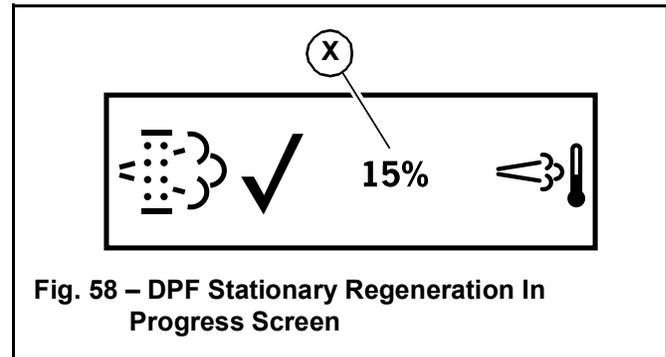

Fig. 58 – DPF Stationary Regeneration In Progress Screen
- b. When engine coolant has reached operating temperature (above 140° F / 60° C), a checkmark (O) is displayed next to the coolant temperature icon.
- c. Place throttle controls to the lowest speed setting. A checkmark (P) is displayed next to the slow engine speed icon when the engine is running at low idle.
3. When all three checkmarks (M, O & P) are displayed on the stationary regeneration request screen, press and hold the interface button on the multi-function display until the DPF Stationary Regeneration In Progress screen (Fig. 58) is displayed.
4. Stationary regeneration progress is displayed in the center (X, Fig. 58) of the DPF Stationary Regeneration In Progress Screen.
4. Recovery regeneration progress is displayed in the center (X, Fig. 58) of the DPF Recovery Regeneration In Progress Screen.